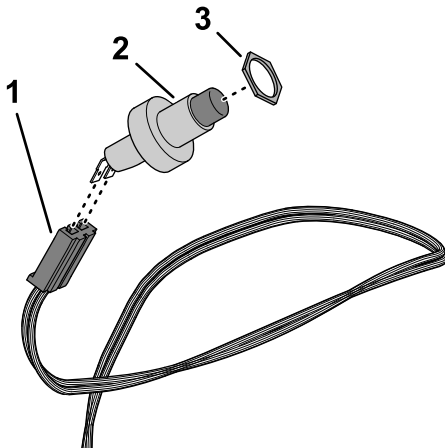

Figure 8
3. Thread the jam nut onto the horn switch (Figure 8).
4. Plug the horn switch into the 2-socket connector labeled HORN SWITCH of the kit wire harness (Figure 8).